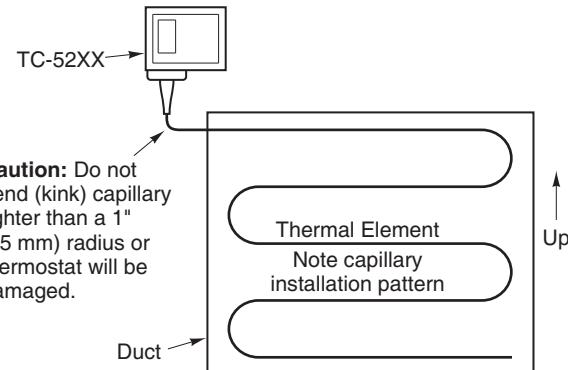

Figure-3 Thermal Element Location.
4. Serpentine the element in a horizontal pattern so that it is exposed to all areas where low temperatures are possible. See Figure-3.